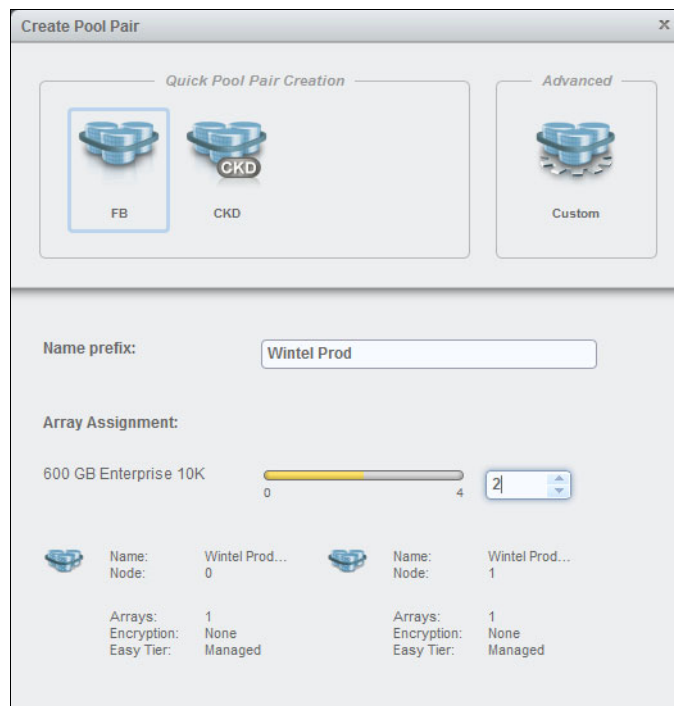

Figure 11-24 Create FB pool pair and assign arrays to a pool pair
4. Specify the pool pair parameters, as shown in Figure 11-24:
- Storage type: Ensure that **Fixed Block (FB)** is selected.